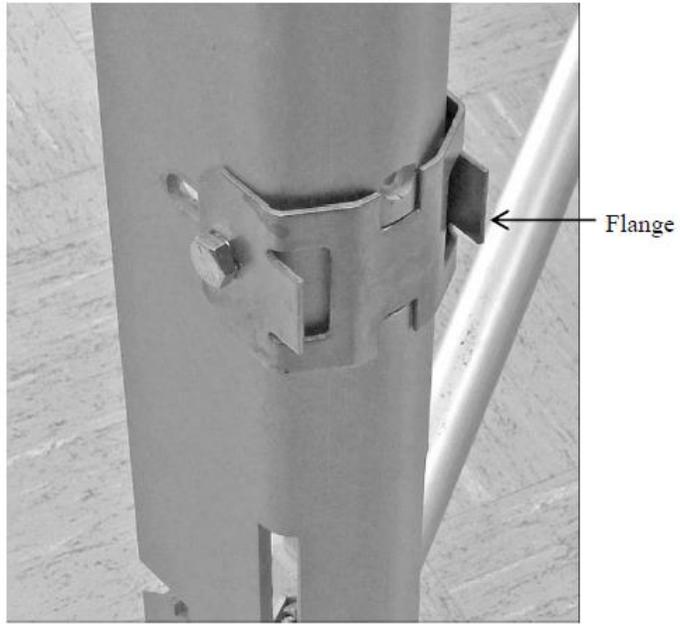

Figure 7-7. The #19124 bracket attached to a CM110 tripod.
- (1) For some tripods, the #19124 bracket may not be pre-installed on the tripod at the factory. In this situation, the #19124 bracket and mounting hardware will be shipped with the tripod and will need to be installed as shown in Figure 7-7.
- (2) An ENC1/18 cannot be mounted to the leg base.
1. Place the flange of the tripod's bracket into a notch in one of the enclosure's bracket (see Figures 7-7, 7-8 and 7-10).